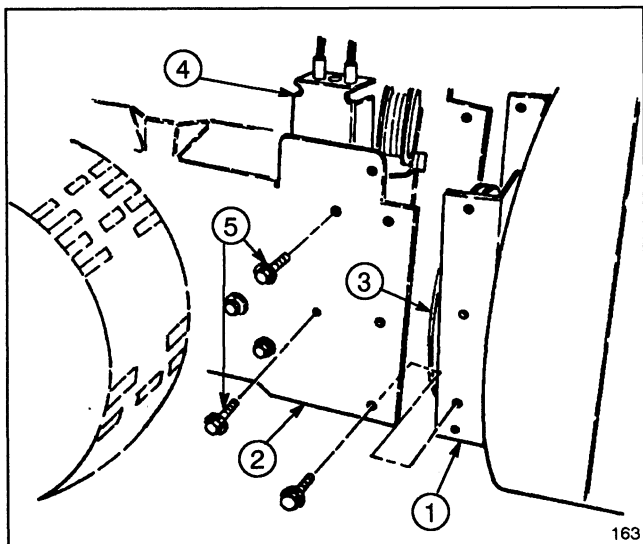

Figure 1
MOUNT AUGER HOUSING (Figs. 1–3)
1. Remove (2) flange head capscrews securing idler pulley assembly to engine frame. Remove idler pulley assembly.
2. Align auger housing and engine frame mounting holes (Fig. 1).